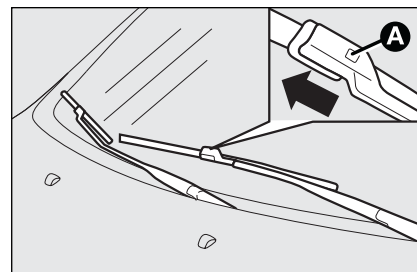

fig. 14
- press tab **A-fig. 14** of the coupling spring and remove the blade to be replaced from the arm;